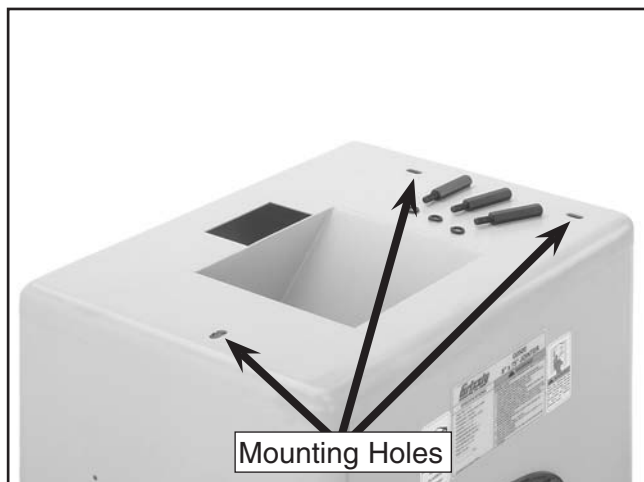

Figure 5. Mounting holes.
2. Align the three bolt holes on the jointer with the three holes on the stand (**Figure 5**).